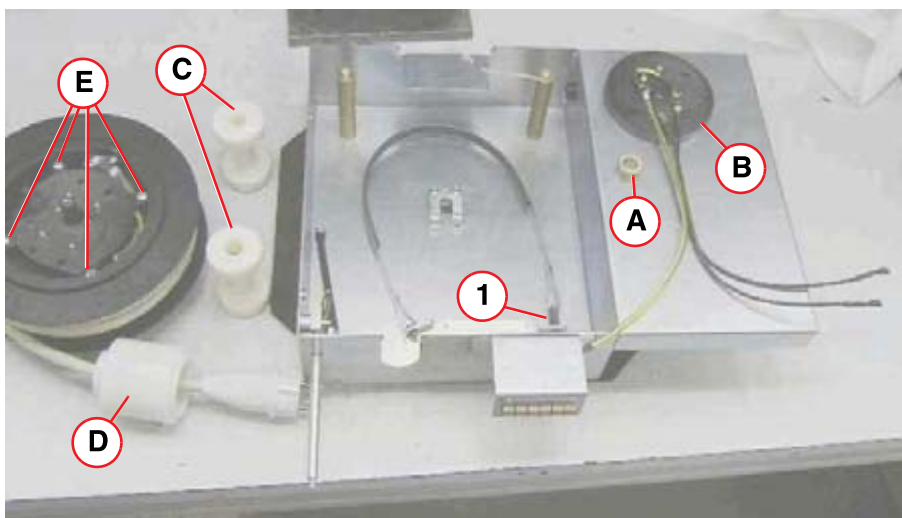

Fig. 72: Cable winch removed
- Remove the spacer ring and the upper plate (with the cables) from the axle of the cable winch (see (A / B/ Fig. 72 / p. 77)).
- Remove the two white plastic rollers (see (C/ Fig. 72 / p. 77)).
- Take the white plastic ring (see (D/ Fig. 72 / p. 77)) out of the guide and carefully release the brake to release the spring tension.
- Remove the four screws (see \(E/Fig. 72 / p. 77\)).
- Install the two white plastic rollers (see \(C/Fig. 72 / p. 77\)).
- Install the upper connector plate and the spacer ring (see \(A / B/Fig. 72 / p. 77\)).
The cable winch should not wind on its own. Use the screw (see 1/ Fig. 72 / p. 77) to adjust the braking force.